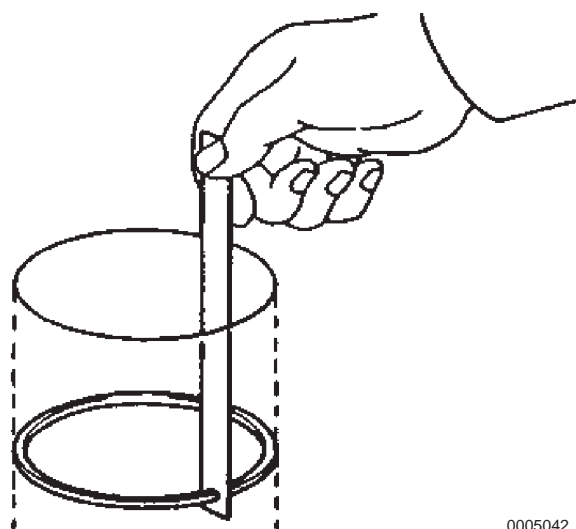

Figure 5-119
- (c) Measure the end gap using a thickness gauge (**Figure 5-119**).